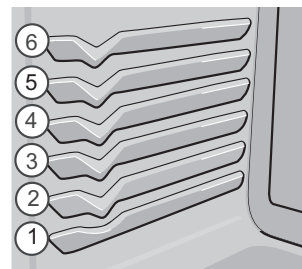

Figure 6: Use rack positions 1 and 5 for multiple rack baking
- For best results when baking cakes using two oven racks, place Glide rack in position 4 with the flat rack in position 1. (See Figure 6).